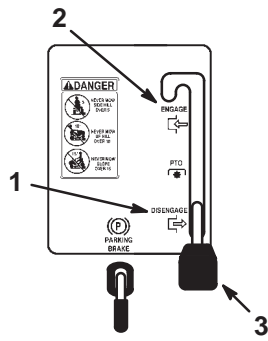

Figure 8
- Shift the blade control (PTO) lever to Disengaged (Fig. 8).